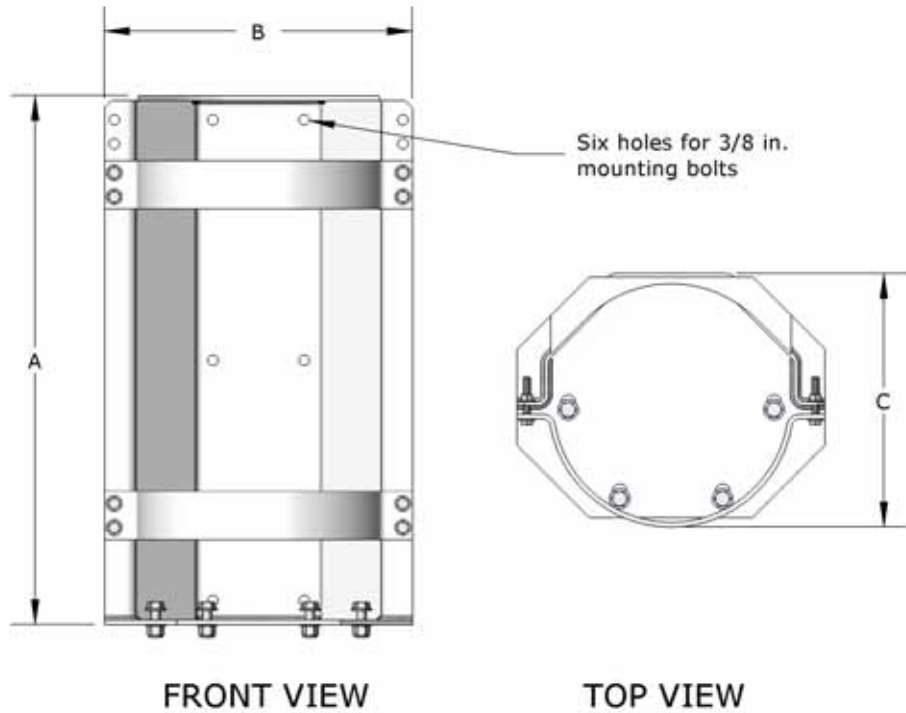

Figure 2-5. Sentinel DCS-68 Cylinder Mounting Bracket Dimensions
The Sentinel DCS-68 mounting bracket may be mounted to a wall, using six (6) 3/8-in. grade 8 bolts of suitable length. Dimensions and specifications are shown in Figure 2-5 and in Table 2-3.